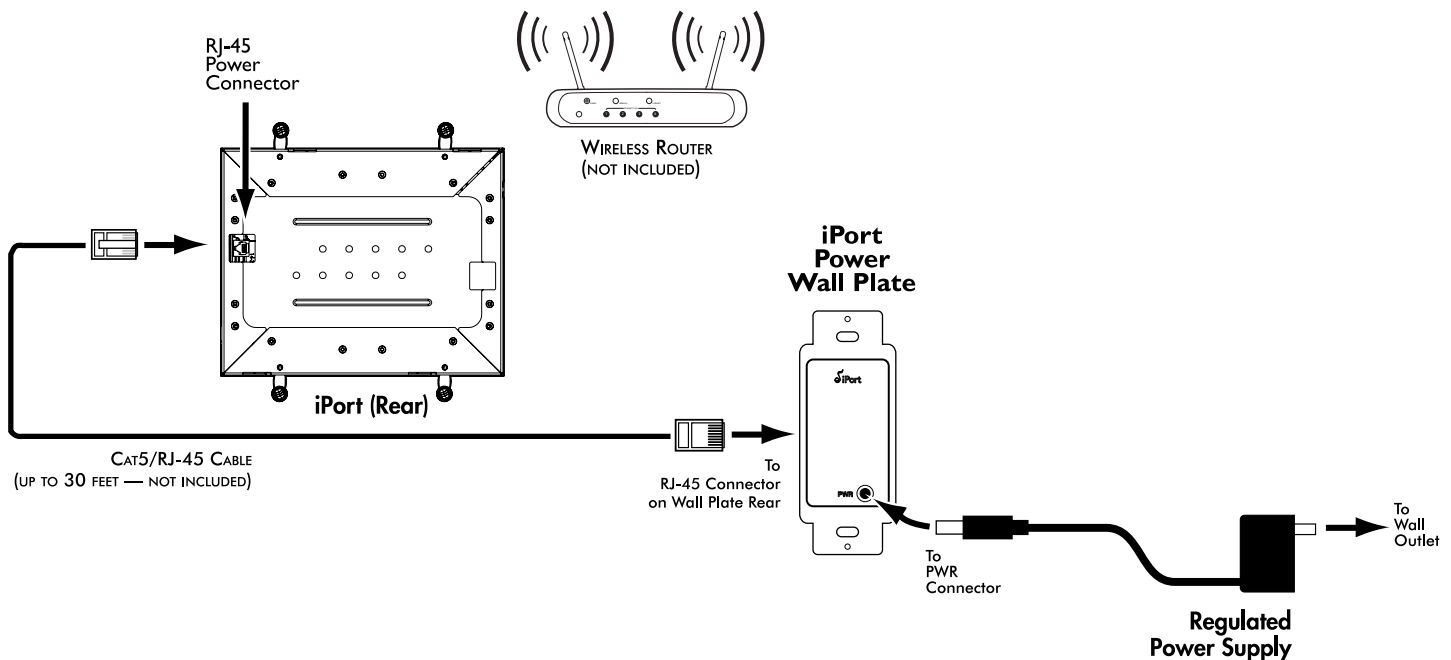

Figure 3: iPort System Connections
See Figure 3
1. Before making connections, run a length of Cat5 cable through the wall from the Control Mount location to the power wall plate location, as shown in Figure 3. The wall plate can be located up to 30 feet from the control mount.
3. Plug the Cat5 cable into the RJ-45 jack on the Control Mount and the RJ-45 jack on the wall plate, as shown in Figure 3.
3. Plug the included DC power supply into the Power connector on the wall plate and into a wall outlet, as shown in Figure 3.